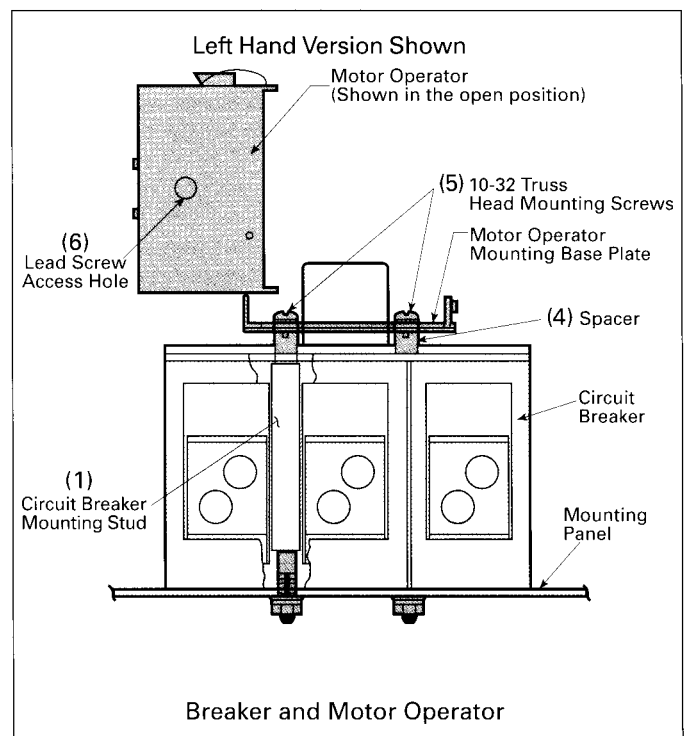

Figure 2
- B. Attach the circuit breaker to its mounting surface using the mounting hardware (1) supplied with the motor operator (Figure 2).
- E. Open the motor operator cover and attach the motor operator to the circuit breaker using the spacers (4) and screws (5) provided (Figure 2).
- F. With the circuit breaker handle in the OFF position, align the motor operator mechanism rollers (indicator to be in OFF position) and the circuit breaker handle by rotating the lead screw (6) with a screwdriver. The lead screw access hole is at the bottom of the motor operator (Figure 2).